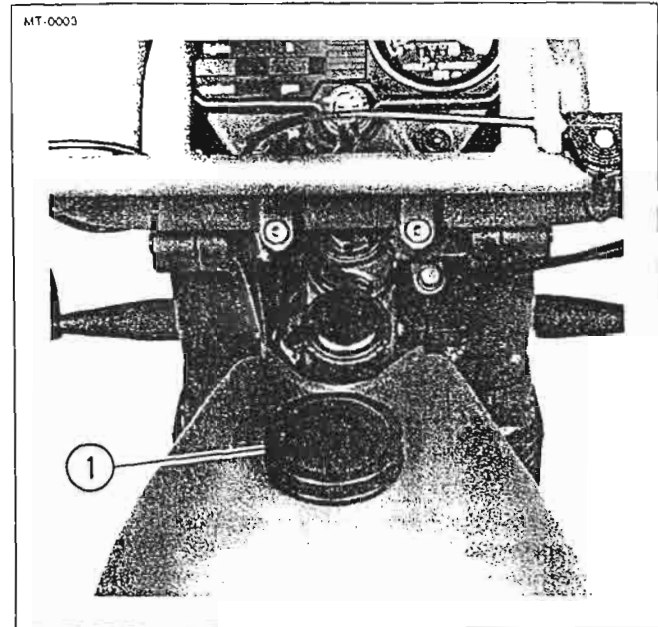

Figure 2-8. Fuel Tank Filler Cap
See Figure 2-8. Remove fuel filler cap (1) slowly. Add unleaded fuel of at least 87 pump octane rating until level with bottom of filler neck insert. Install filler cap, turning until clicking noise occurs, indicating that cap is on tight.